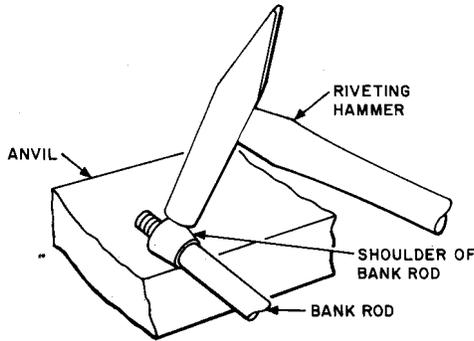

Fig. 13—Method of Bumping Bank Rod
- (d) Place the rod on an anvil or similar metal surface so the tapered surface of the shoulder rests flat as shown in Fig. 13.